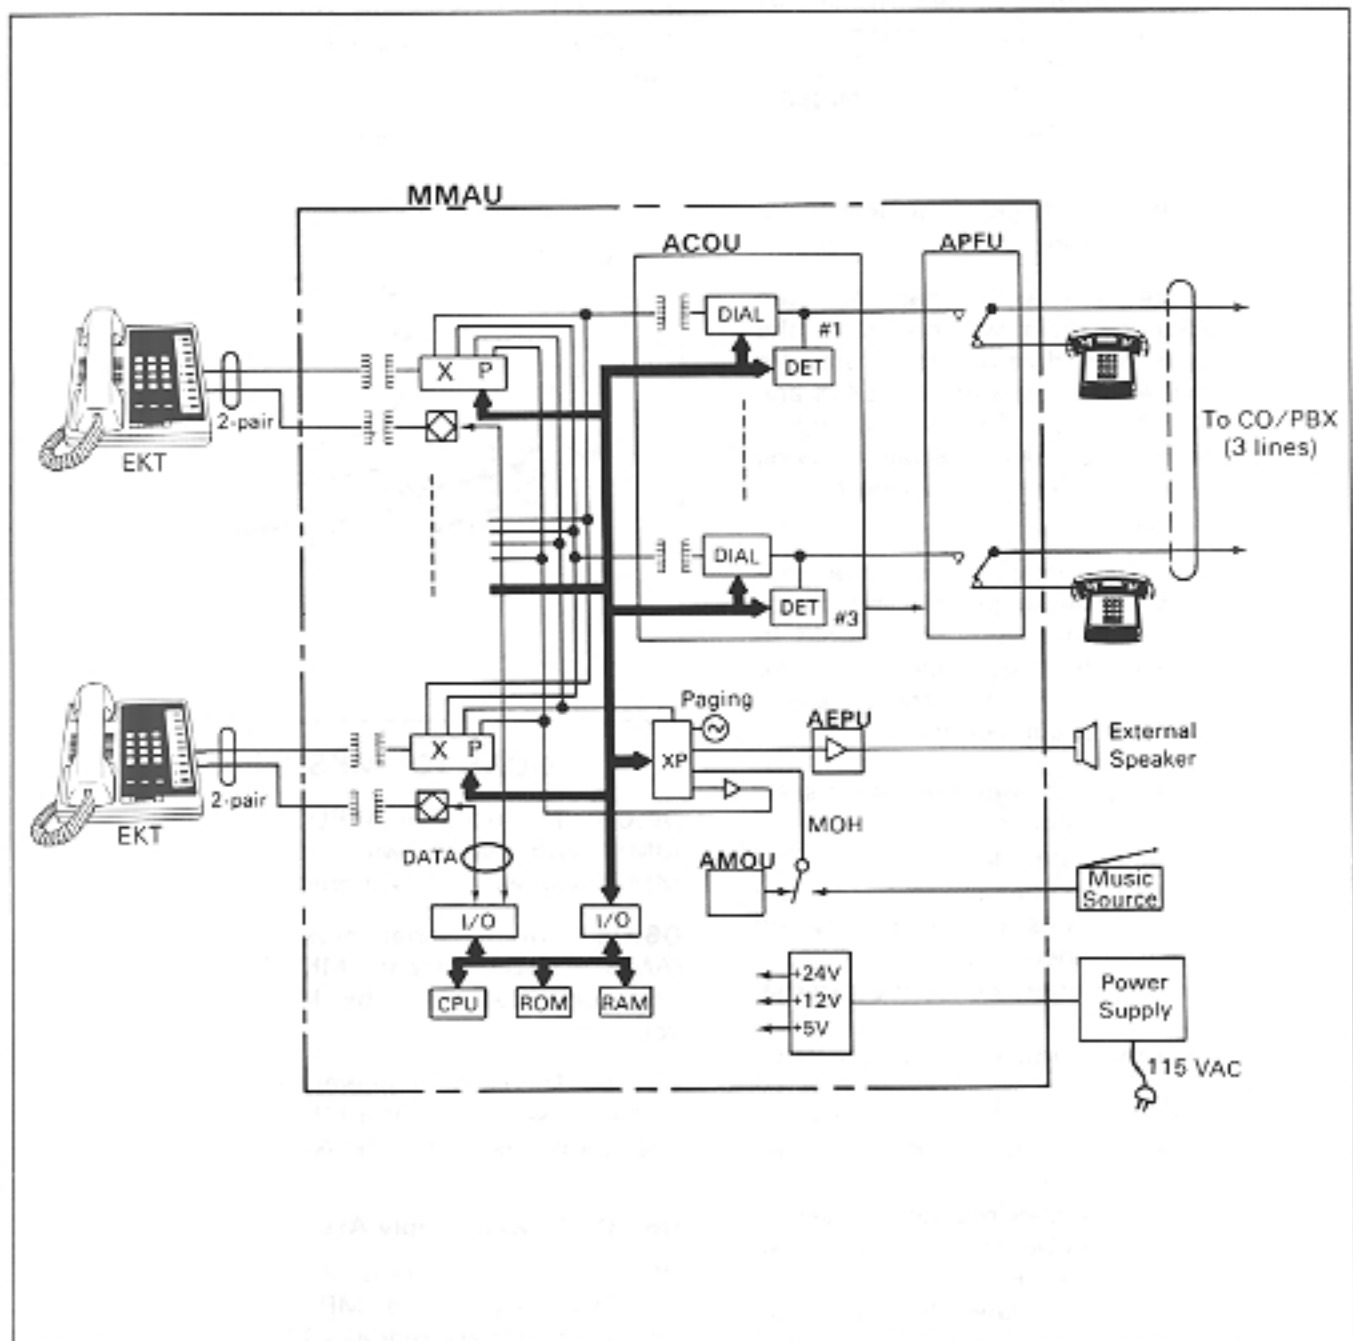

FIGURE 9—FUNCTIONAL BLOCK DIAGRAM
05.02 A functional block diagram of the *Strata S* MKSU is shown in Figure 9; it consists of the main PCB (MMAU), which includes a station interface and central control equipment, and a CO interface (ACOU). The optional Paging Amplifier module (AEPU), internal music-on-hold source (AMOU), and Power Failure module (APFU) are also shown.